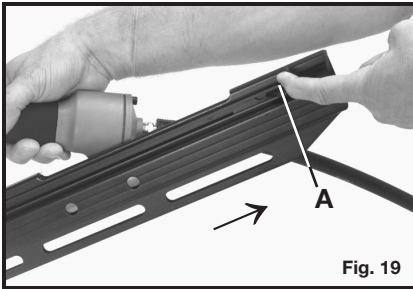

Fig. 19
2. Pull follower all the way to the rear, until it latches (A) Fig. 19.